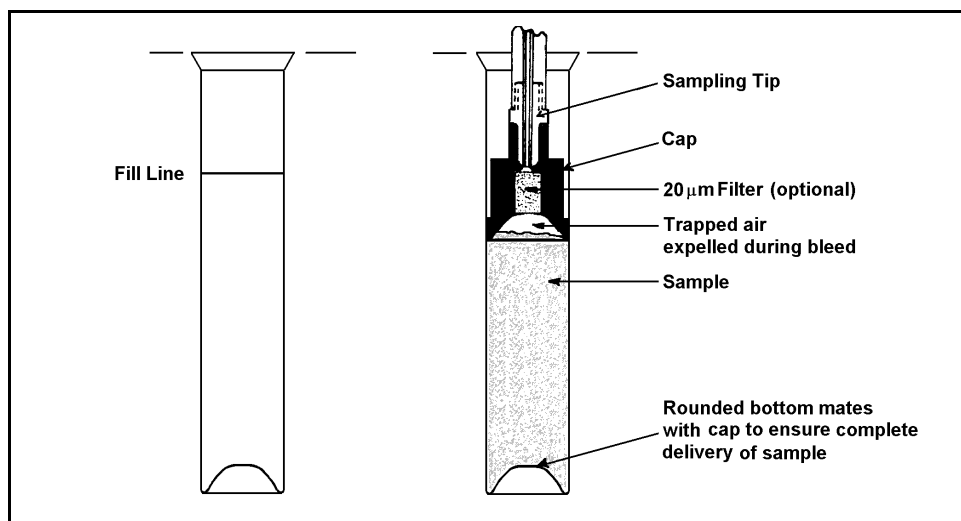

Figure 2-6. PolyVial Features
Disposable plastic PolyVials and caps are available in two sizes: 0.5 mL (P/N 038142) and 5.0 mL (P/N 038141). The socket for the sampling tip is identical on both sizes of caps to allow mating with the tip of the sampler head (see Figure 2-6).
The sampling head consists of a motor-driven shaft which moves down to engage the top of the vial cap. As the shaft moves downward, the cap is gradually pushed into the vial, forcing the liquid through the filter (if present) and into the tubing connecting the AS40 to the injection valve. The moving cap acts as a piston to force the liquid from the vial. This allows samples to be loaded without the use of an external sampling pump. The concave bottom of the vial cap traps air, so that it can be expelled with any excess sample above the fill line (see Figure 2-6). In addition, the shape exactly matches the convex bottom of the sample vial so that when the cap is pushed completely into the vial, virtually all of the sample is expelled.
2. Fill the vials with either sample or rinse solution to the fill line marked on the vial body (see Figure 2-6). (Using a pipette simplifies filling the 0.5 mL vials.) After filling, inspect the vials to make sure no air bubbles are trapped at the bottom.